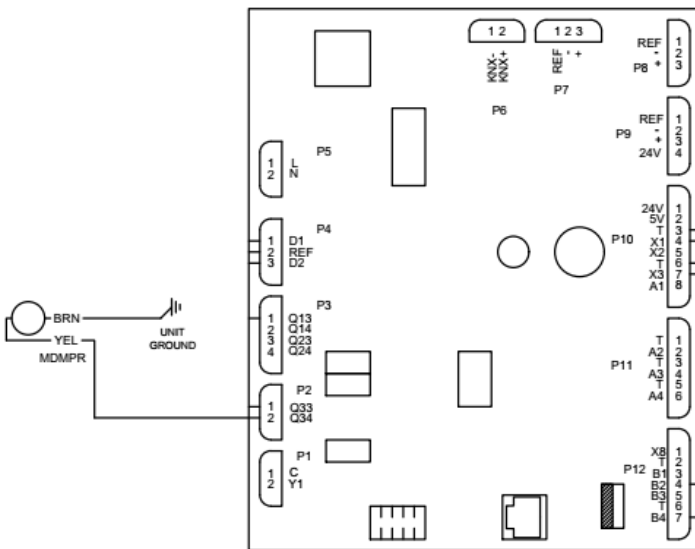

FIGURE 25 - Outside Air Damper Connection
2. Attach 24V lead to Q3 (See **FIGURE 25 - Outside Air Damper Connection**) on the ERV control board.